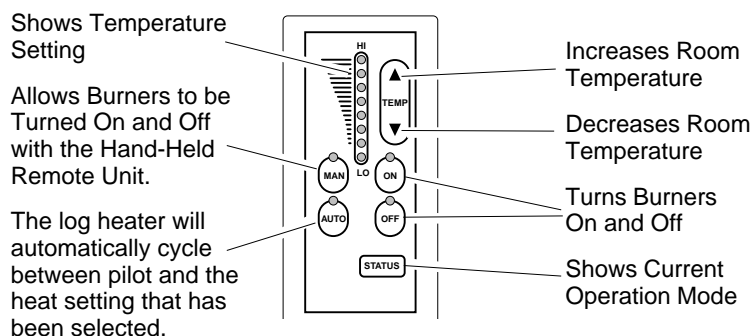

Figure 28 - Thermostat Hand-Held Remote Control Unit Selections
2. Select the MANUAL or AUTO button on the hand-held remote control unit (GHRCT only, see Figure 28).